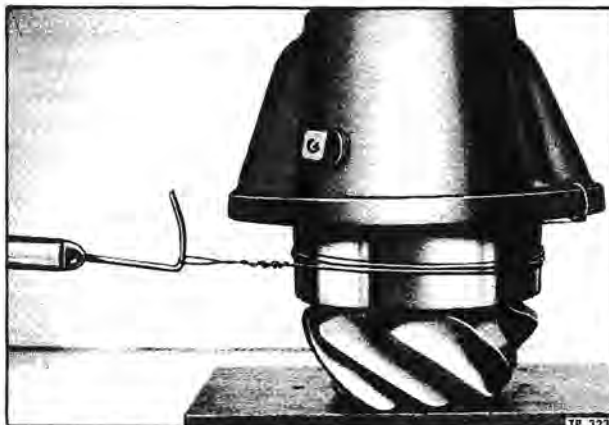

Figure 12—Checking Pinion Bearing Pre-Load
2. Position pinion bearing (35) on drive pinion (36), with widest part of bearing cone toward gear teeth, then press bearing on pinion until bearing cone is seated solidly on drive pinion.
3. Install drive pinion inner bearing (37) on drive pinion (36), using arbor press. Install retainer ring (38) to retain bearing.
4. Lubricate pinion bearing cones and cups with light engine oil. Install original pinion bearing adjusting spacer (33) on drive pinion.
5. Insert drive pinion (36) and bearing assembly into pinion cage (30); then, using an arbor press, press outer pinion bearing (31) firmly against bearing spacer (33). Rotate bearing cage through several complete revolutions to assure normal bearing contact.
6. While assembly is still in press under pressure (14-ton), check drive pinion bearing preload. Wrap soft wire around pinion bearing cage (30) as shown in figure 12. Attach pound scale to wire, then pull on scale, keeping scale in a horizontal plane. Note scale reading when assembly is rotating freely. Reading should be from 5 to 15 inch-pounds. To compute inch-pound value of scale reading, multiply scale reading (pounds) by one-half pinion cage diameter (inches). If reading does not fall between limits given, use thinner spacer (33) to increase or thicker spacer to decrease pinion bearing preload. Spacer thicknesses available are given in "Specifications" at end of this section.